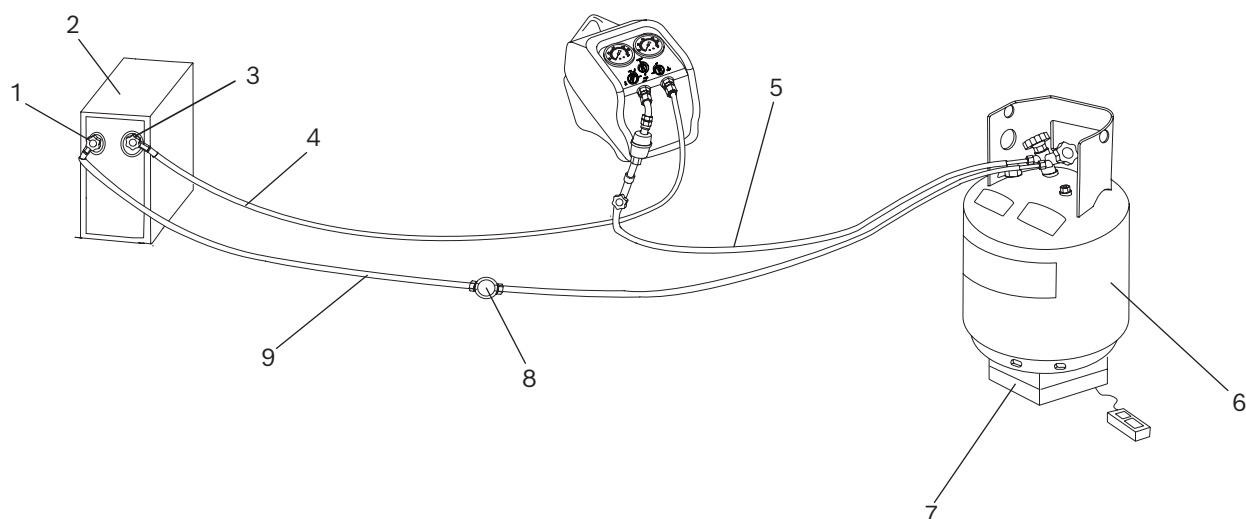

Fig.4: Push / pull recovery
4. Connect the RG4.0 to the system being serviced according to Fig. 4. Follow the order outlined below. Use only designated refrigerant hoses that meet local regulations. Because hoses must be switched in order to remove refrigerant from the system, it is necessary to use hoses with manual shutoff valves on both ends, and these instructions are written for such hoses.
- Connect a hose to the liquid port of an approved two-valve recovery tank and the other end to the high side (liquid) service port of the A/C or refrigeration system. It is beneficial to have a sight glass (Fig. 4, Pos. 8) in this hose to monitor liquid refrigerant flow.
- ⇒ Liquid refrigerant should begin to flow into the tank. This can be verified with the sight glass. Refer to Fig. 4, Pos. 8.